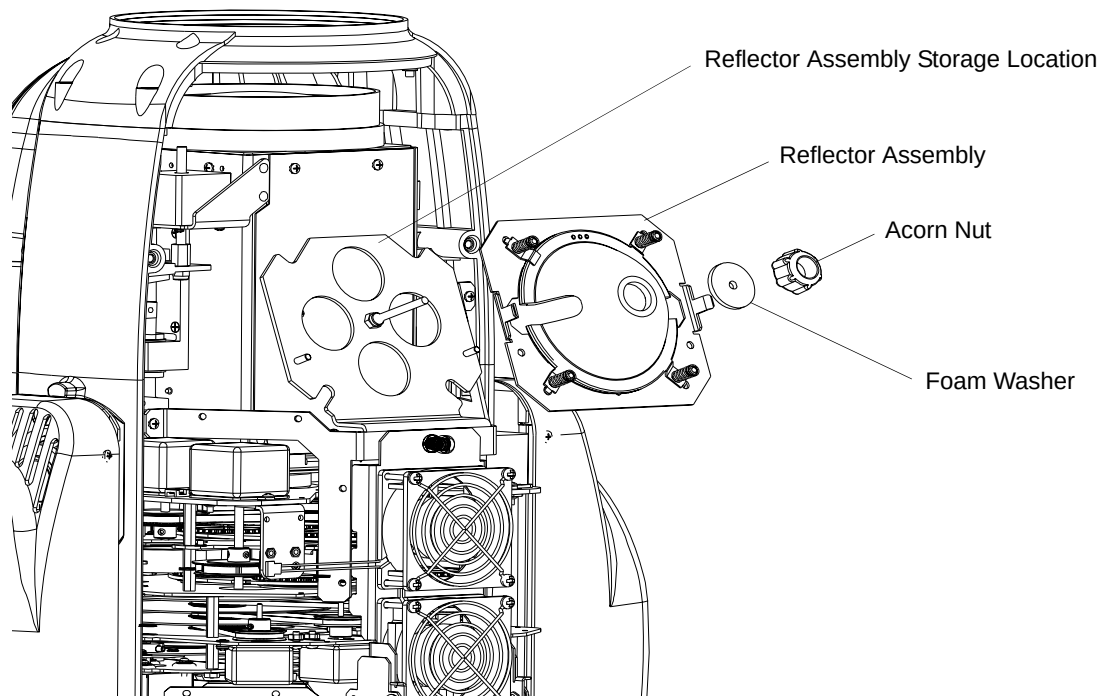

Figure A-6: Reflector Removal (From Storage Location)
- Step 5. As shown in Figure A-6, remove stored reflector by removing acorn nut and foam washer securing reflector in luminaire head assembly. Set reflector aside on a soft clean cloth.
- Step 12. Install removed reflector in storage location in luminaire head as illustrated in Figure A-6. Make sure the foam washer is between the reflector assembly and the acorn nut.